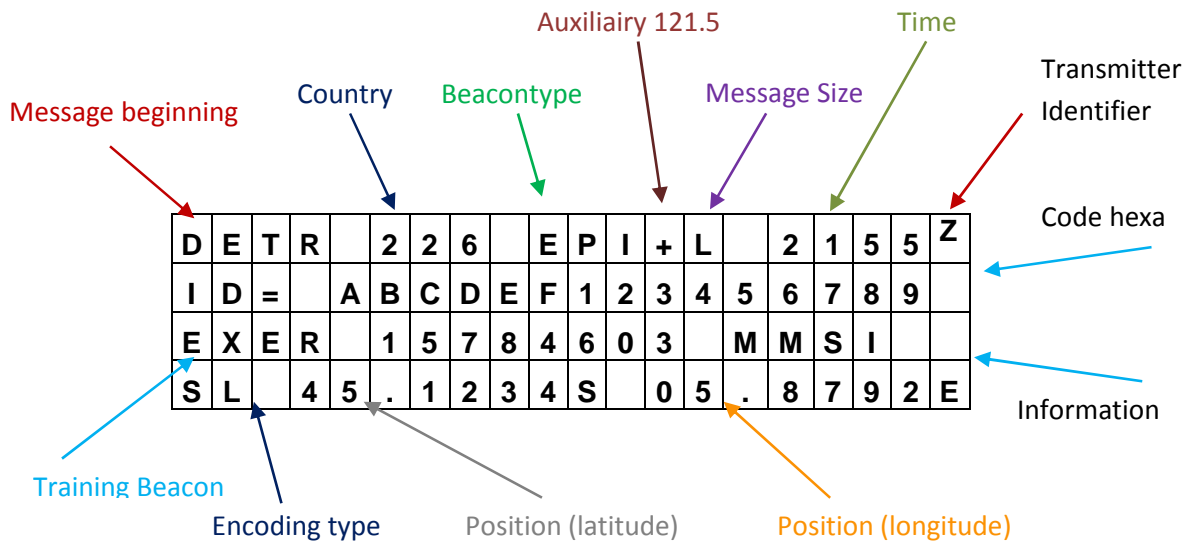

Figure 2: message information display
- In the Figure 2 example, DETR (for DISTRESS) is given by the beginning of the message. If it is a beacon test, these 4 letters are replaced by TEST.